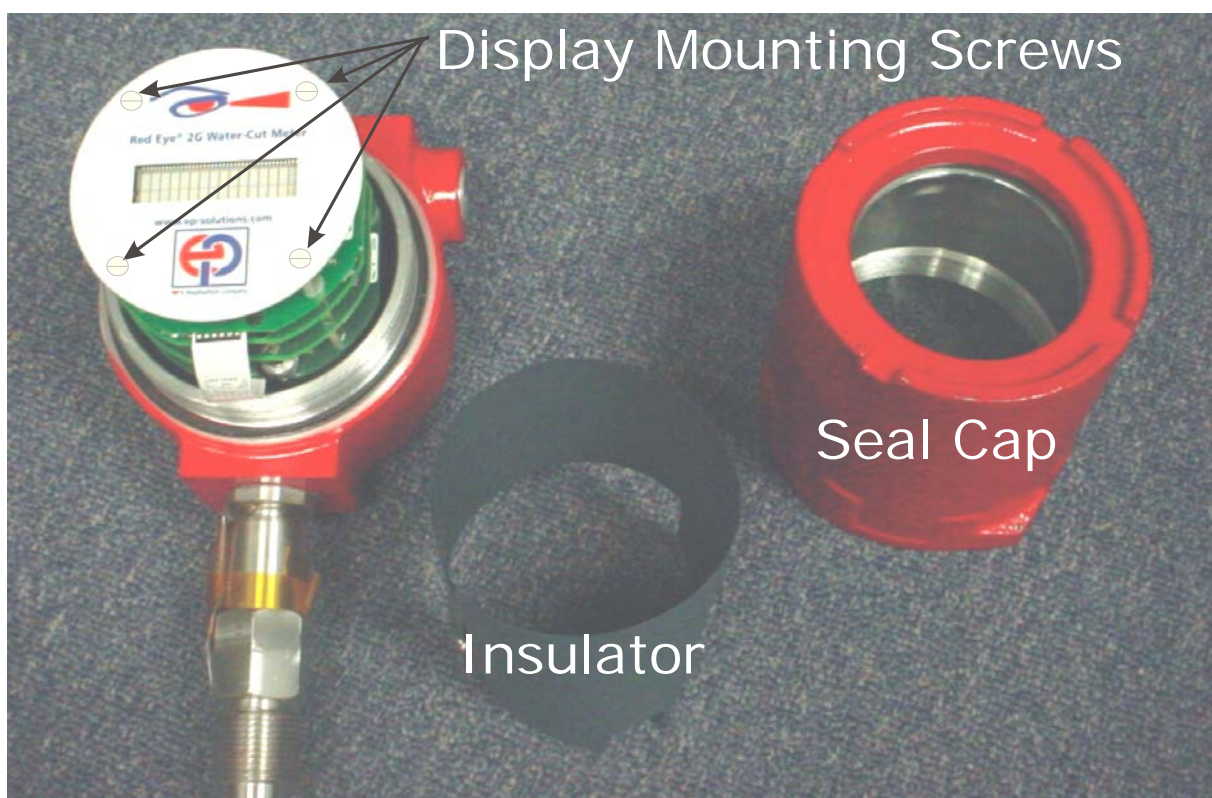

Figure 8: Removing Cap, Insulator, and Display Mounting Screws
2. Remove the 4 plastic screws that hold the display board onto the electronics package and set them aside as shown in Figure 8.